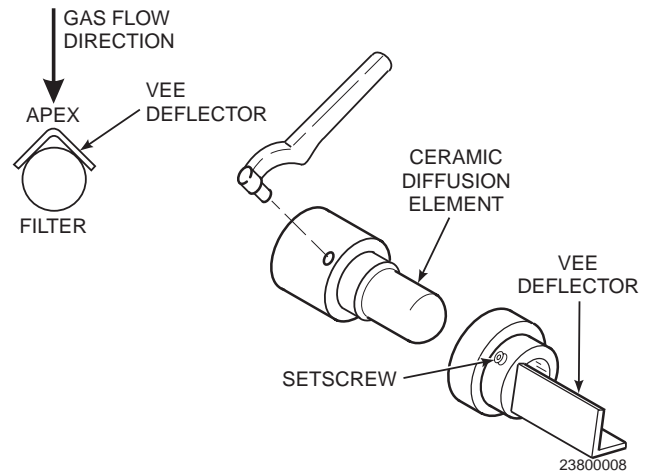

Figure 2-2. Orienting the Optional Vee Deflector
4. If using the optional ceramic diffuser element, the vee deflector must be correctly oriented. Before inserting the probe, check the direction of flow of the gas in the duct. Orient the vee deflector on the probe so that the apex points upstream toward the flow (Figure 2-2). This may be done by loosening the setscrews, and rotating the vee deflector to the desired position. Retighten the setscrews.